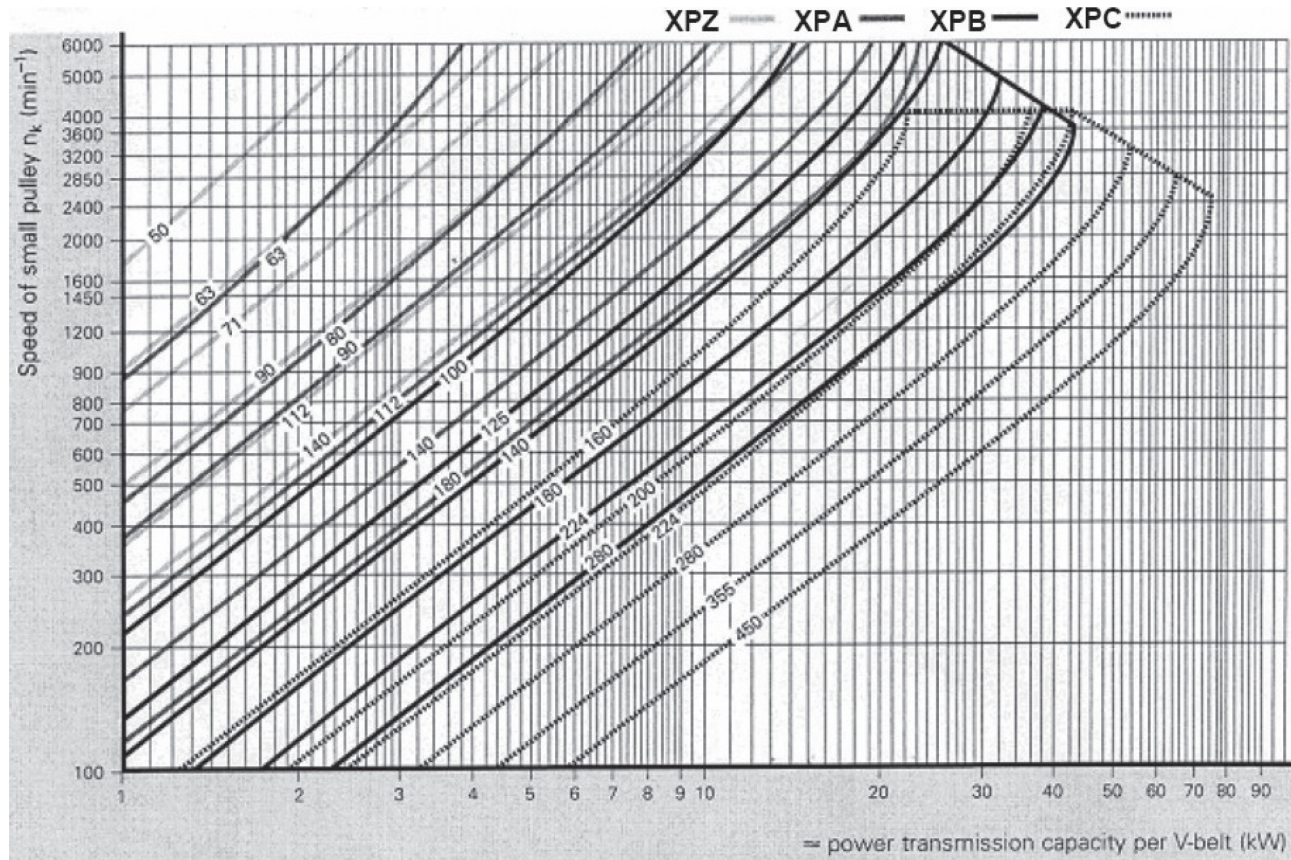
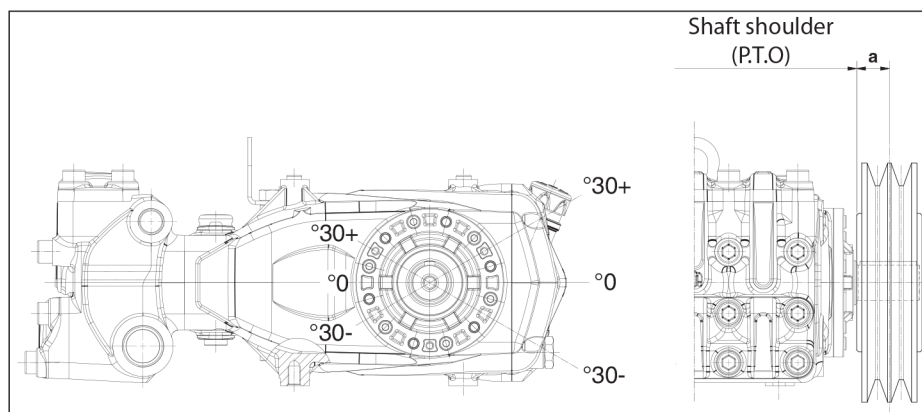

Fig. 7
Fig. 10
The pump can be controlled by a V-belt system. For these pump models, we recommend use of 3 XPB belts (16.5x13 serrated). Use an XPC profile only for long durations. Both the characteristics and transmissible power of each belt can be verified in the diagram in Fig. 7, in relation to the number of rpm normally declared by the manufacturer. Minimum duct pulley diameter (on pump shaft):  $\geq 6.3$  in (160 mm). The radial load on the shaft must not exceed 3319 ft. lbs. 4500 N (value necessary for Layout definition). The transmission is considered adequate if the load is applied to a maximum distance  $a = 1.97$  in. (50 mm) from the shaft shoulder (P.T.O) as shown in Fig. 10.
B) Use high performance belts – for example XPB instead of SPB – as a lower quantity of belts for the same transmitted power may be necessary and a consequent shorter resulting distance compared to the shaft shoulder (P.T.O) “a” of Fig. 10.
- E) Follow the direction of the belt pull as shown in Fig. 10 for other needs, contact our Customer Service Department.